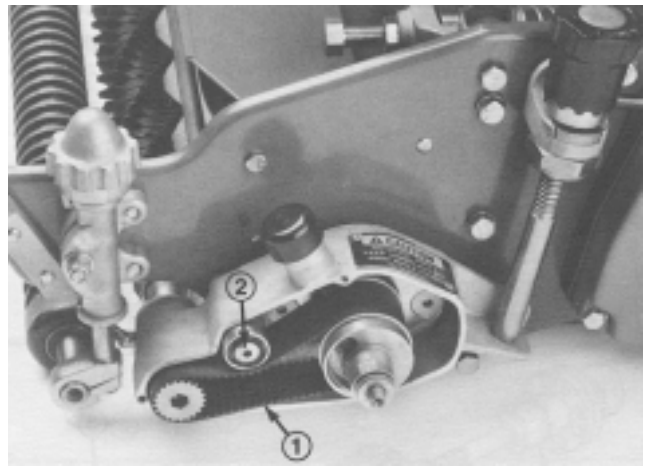

Figure 10
- D. Position the toothed belt over the drive pulley (that was removed from the clutch in step 10). While holding the belt on the drive pulley, simultaneously slide the drive pulley back into place on the clutch adapter and position the belt around the driven pulley and under the backside idler (Fig. 10).
- F. Check the tension on the drive belt by depressing it at the midpoint between the drive pulley and the driven pulley (Fig. 10). A force of 5 to 10 lbs. should be required to depress the midpoint of the belt 1/4 inch. To adjust tension, loosen the backside